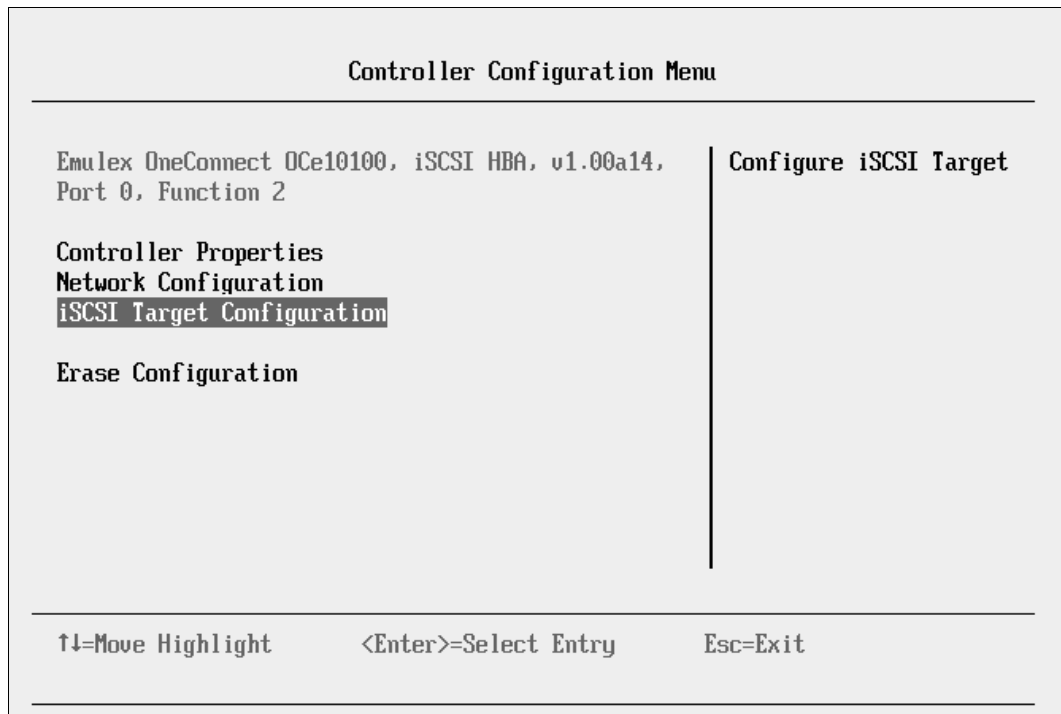

Figure 9-81 Controller Configuration Menu panel
10. In the Controller Configuration Menu panel (Figure 9-81), select **iSCSI Target Configuration**.